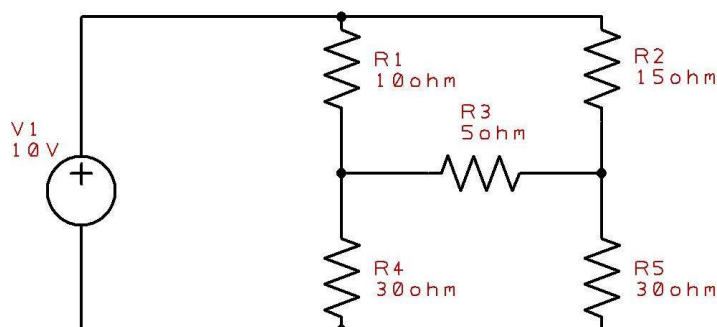

Figure 6-2: Mesh Current Simulation
1. We want to simulate the above circuit (Figure 6-1), therefore open DesignSpark PCB (right click on the desktop icon and select open, or double-click on the icon) and open the file “Mesh_Example.sch” as shown in Figure 6-2.